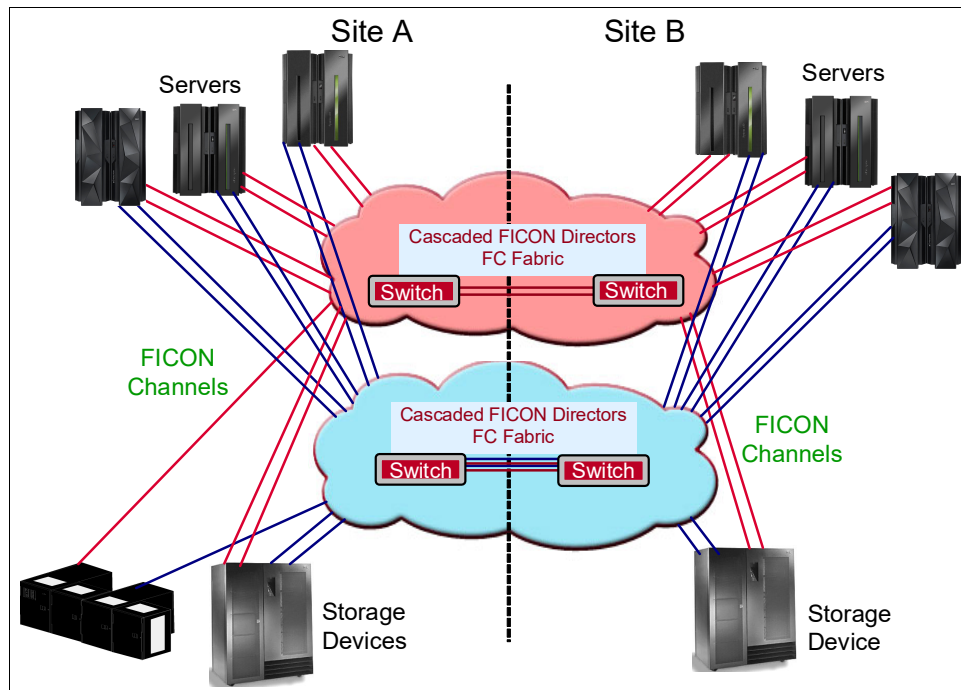

Figure 3-10 Two-site FICON connectivity with cascaded directors
Cascaded support is important for disaster recovery (DR) and business continuity solutions, as shown in Figure 3-10. It can provide high availability (HA) connectivity and the potential for fiber infrastructure cost savings for extended storage networks. FICON two-director cascaded technology allows for shared links, so it improves the usage of connected site resources and infrastructure. Solutions such as IBM GDPS can benefit from the reduced intersite configuration complexity that is provided by FICON support of cascaded directors.